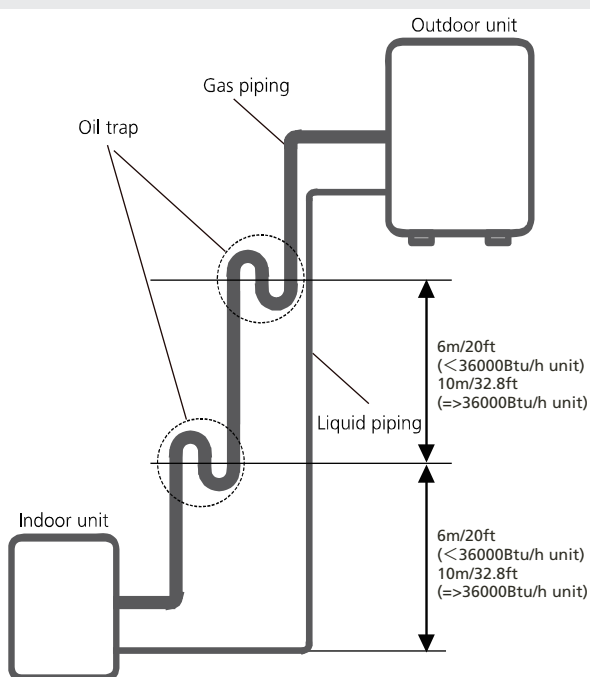

Fig. 6.2
-It is recommended that vertical suction risers not be upsized. Proper oil return to the compressor should be maintained with suction gas velocity. If velocities drop below 7.62m/s (1500fpm (feet per minute)), oil return will be decreased. An oil trap should be installed every 6m(20ft) or 10m(32.8ft) of vertical suction line riser. (See Fig. 6.2)